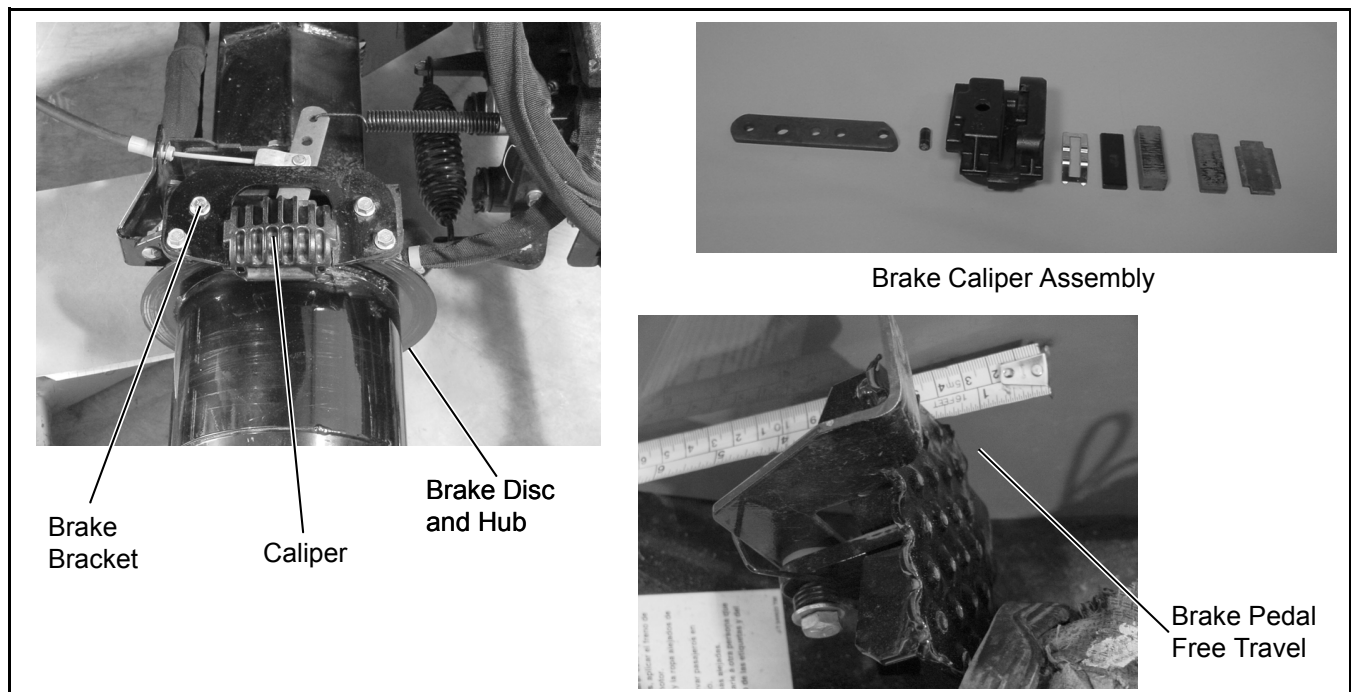

Figure 5C-2. Brake Assembly and Adjustment
2. Check the brake pedal free travel (Figure 5C-2). The pedal free travel should be approximately 1.5 in (38 mm).